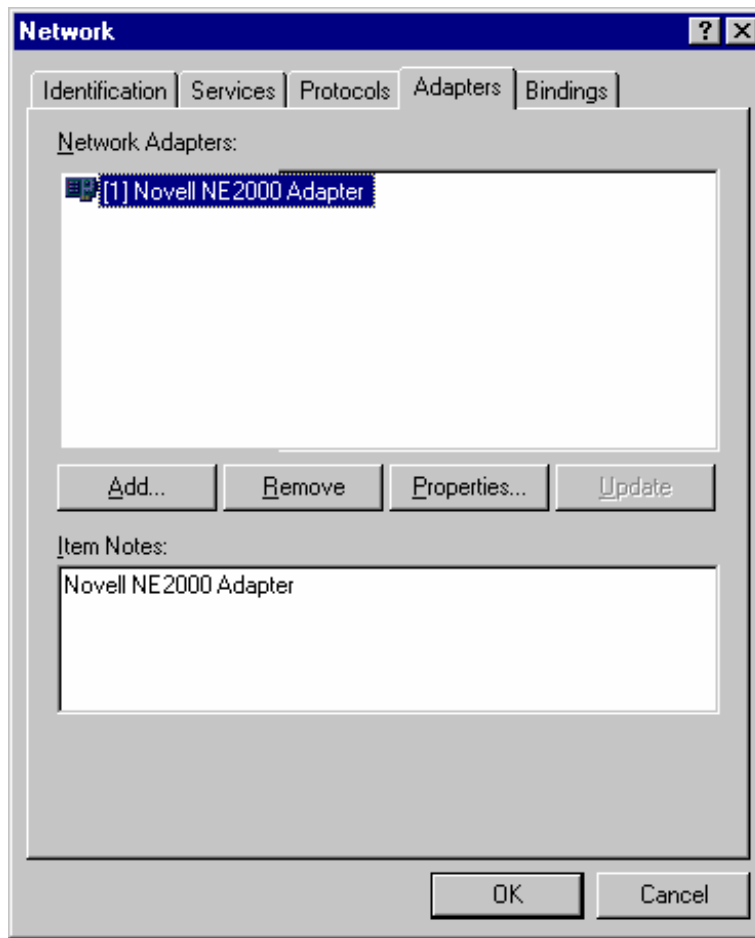

Figure 3
1. Start network setup program: (Start->Program->Settings->Control panel->network), see figure 3.